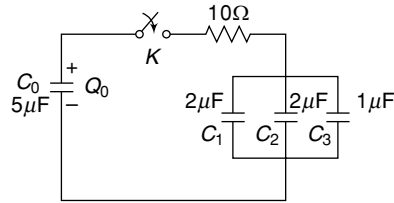

Fig. 1.45 Circuit of Ex. 1.37
1.37 A $5\ \mu\text{F}$ capacitor is initially charged with $500\ \mu\text{C}$. At $t = 0$, the switch K is closed (Fig. 1.45). Determine the voltage drop across the resistor at $t < T$ and $t = \infty$.